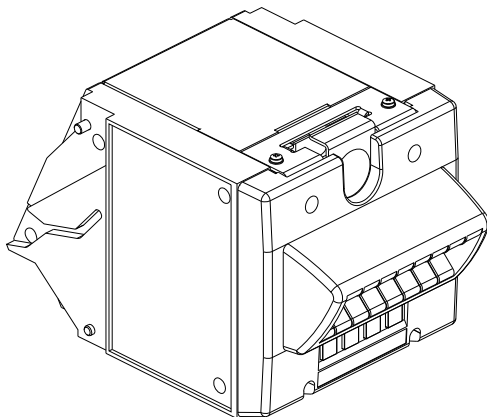

Fig. 35
- Step #3. Unscrew two screws and remove the lock bracket from the dispensing cassette (Fig. 35)